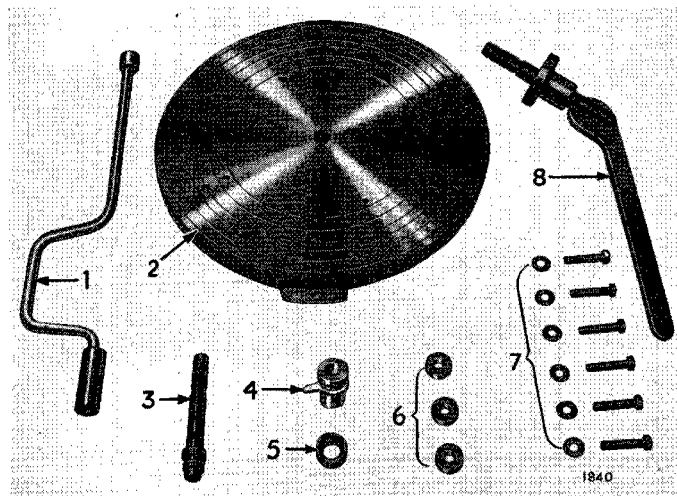
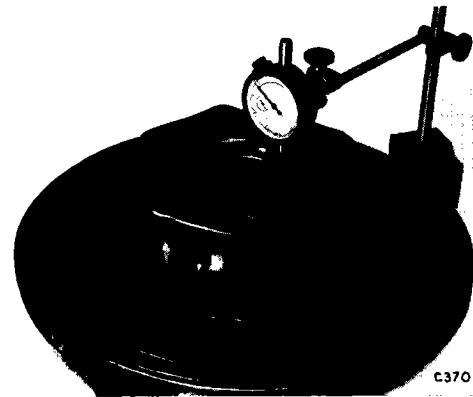

Fig. 14. Clutch assembly fixture No. 99A
Fig. 23. Using a dial gauge to check run-out of release plate
Dismantling (Fig. 14)
Assemble the toggle levers (8), bridge pieces (10), lockplates (11) and nuts (12). Fit the gauge finger (4), Fig. 14, with adaptor No. 5 and adjust the nuts (12) until the gauge finger just contacts the ends of each lever (8), Fig. 19. Remove the gauge and stud, fit the operating lever and operate the clutch a few times. Refit the stud and gauge, re-check the lever height and adjust if necessary. When correctly adjusted, bend up the lock-plates (11) against the nuts (12). Fit the release plate (13) and secure it with the springs (9). Check the run-out of the release plate with a clock gauge as shown on Fig. 23. This must not exceed 0.015" (0.38 mm.). If satisfactory, remove the clutch from the baseplate.
Adjust the toggle height as described under "Adjustment" and fit the release plate (7) and springs (8). Check the run-out of the release plate with a clock gauge (Fig. 23). This must not exceed 0.015" (0.38 mm.). If satisfactory, remove the clutch from the baseplate.